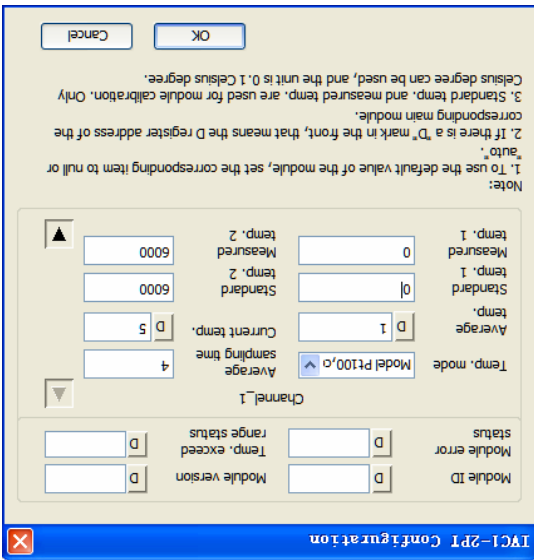

Figure 4-1 Setting CH1
- BFM#4094: module software version, displayed automatically as **Module Version** in **IVC1-2PT Configuration** dialogue box of the host software, as shown in Figure 4-1.
thermal resistance to output Celsius data. Set the average sampling times to 4, and use data registers D1 and D2 to receive the average value. See Figure 4-1 ~ Figure 4-4 for the setting method. For further details, see IVC Series Small PLC Programming Manual.